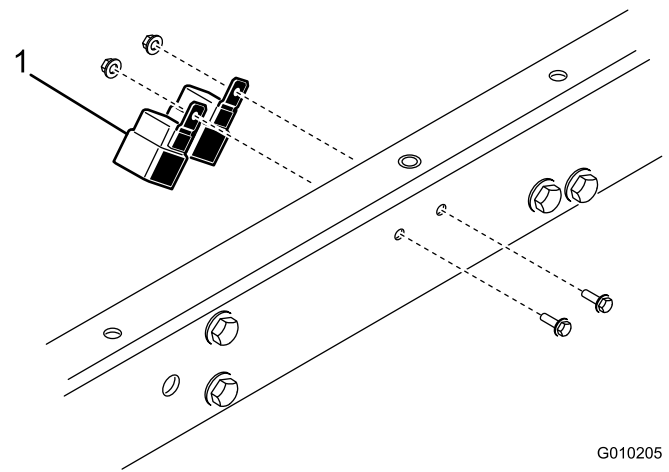

Figure 4
1. Insert end of wire harness, with male and female spade terminals on it, up through opening in vehicle floor board, toward dash panel, following vehicle wire harness. Secure harness to vehicle wire harness with (2) cable ties.
5. Mount the relays to the left frame channel with 2 (1/4 x 3/4 inch) screws and (1/4 inch) nuts (Figure 4).
6. Mount the relays to the left frame channel with 2 (1/4 x 3/4 inch) screws and (1/4 inch) nuts (Figure 4).